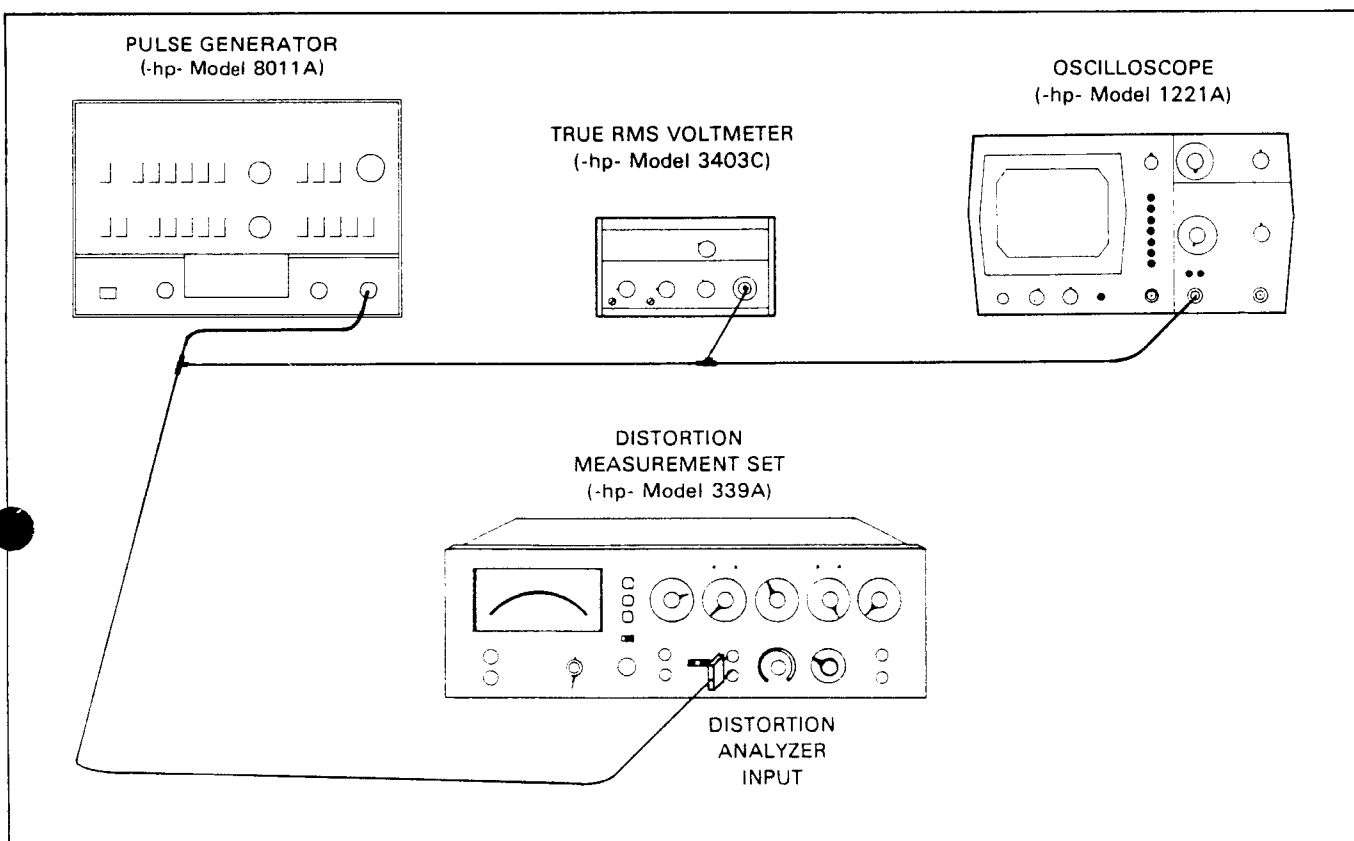

Figure 4-3. RMS Accuracy Test.
- b. Connect the equipment as shown in Figure 4-3.